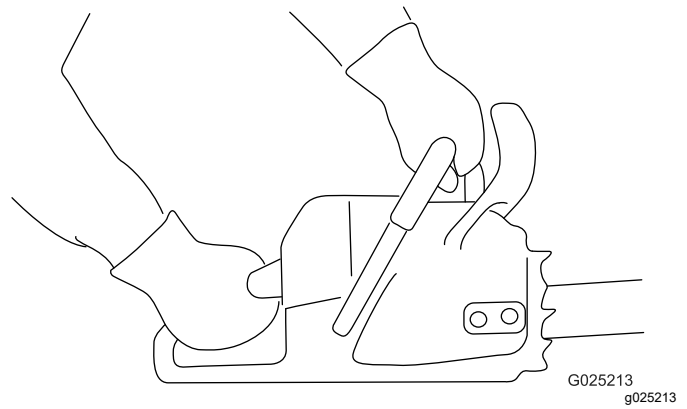

Figure 11
1. Grip the chain saw with 2 hands, with your left hand on the front handle and your right hand on the rear handle as shown in Figure 11.
1. Grip the chain saw as shown in Figure 11.
3. Grip the chain saw as shown in (Figure 11).